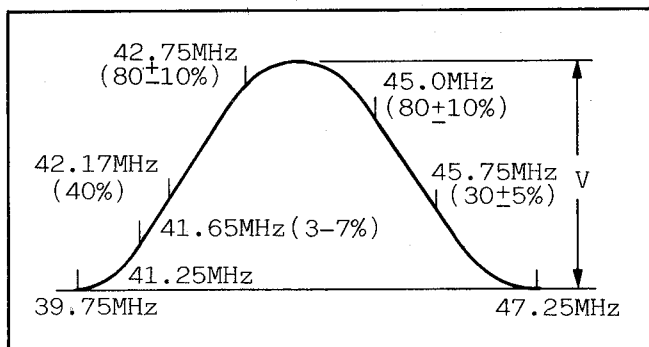

Fig. E14
16. Adjust the IF FILTER (T706)-(2) so that the 39.75MHz trap becomes minimum.
- Adjust the tuner converter trans on the VHF tuner and (3), (4), (5) and (6) trans of T706 so that the sweep output waveform becomes as shown Fig.E14.